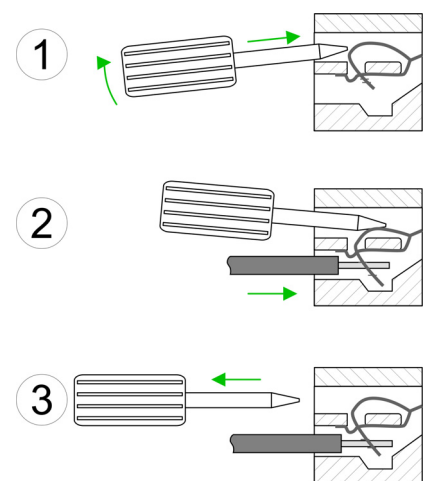

Fig. 7-3: Wiring
- 1 | Insert the screwdriver slightly inclined in the rectangular opening (see Fig. 7-3: "Wiring" 1).
- 2 | Press and hold the screwdriver away from the round opening. The contact spring is open (see Fig. 7-3: "Wiring" 2).
- 3 | Put the stripped wire in the round opening (see Fig. 7-3: "Wiring" 2).
- 4 | Remove the screwdriver (see Fig. 7-3: "Wiring" 3).